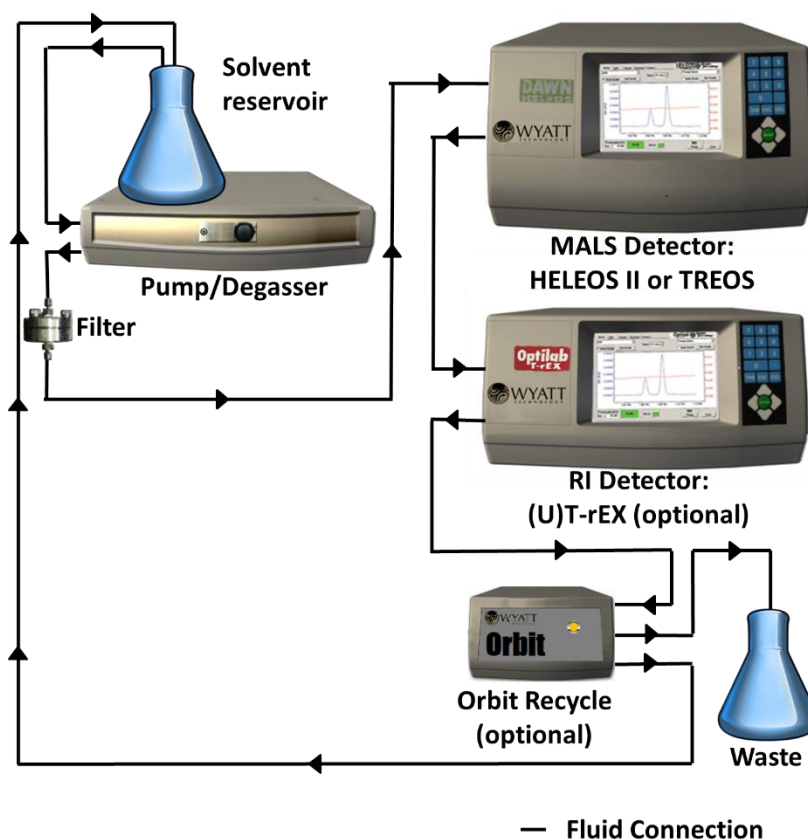

Figure 4. The flow path used for checking the noise of the pump, degasser, and inline filter.
- 1) Connect the HPLC pump to the MALS detector bypassing all components between the pump/degasser and the MALS detector (except the inline filter). See Figure 4.